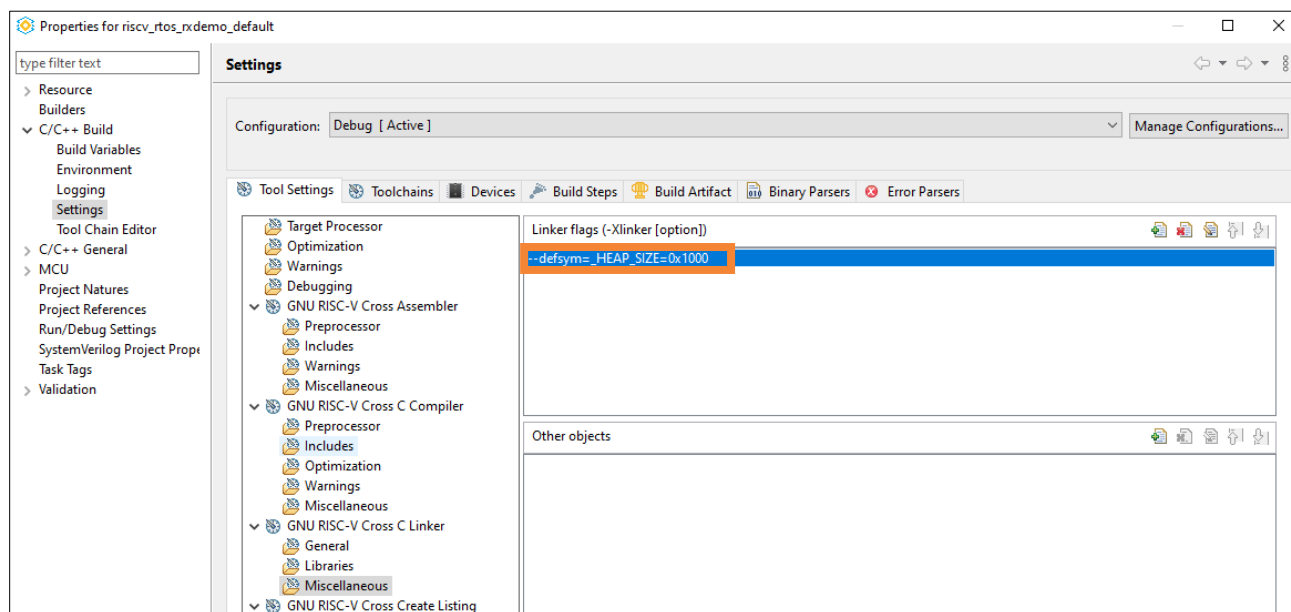

Figure 5.28. --defsym=\_HEAP\_SIZE=0x1000 Linker Flag
6. Select **GNU RISC-V Cross C Linker > Miscellaneous**. Add the linker flag, `--defsym=_HEAP_SIZE=0x1000` (Figure 5.28).